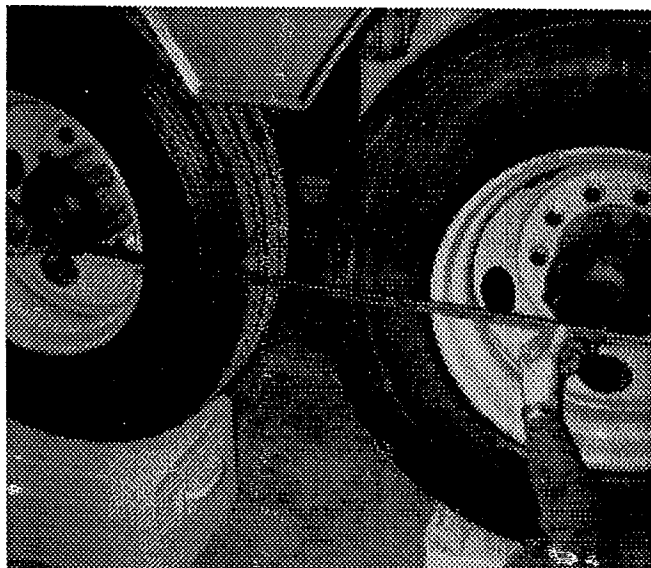

FIG. 6 - Axle #4 alignment
1. Measure distance from center of axle 4 shaft to center of axle 3 shaft (forward tandem axle). See figure 6.